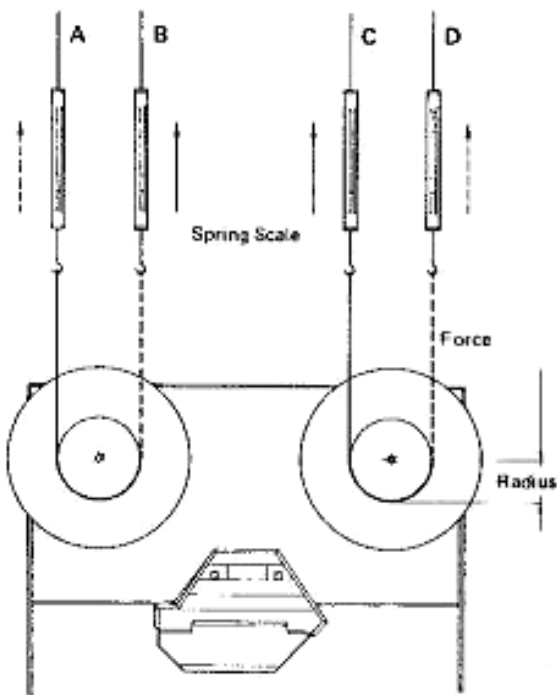

Fig. 2-3.
1. Mount an empty 7" reel onto either reel table and attach a spring scale to the reel with a string. See Fig. 2-3.
3. Follow steps 1 and 2 for each measuring condition; i.e., (A) through (D) in Fig. 2-3.